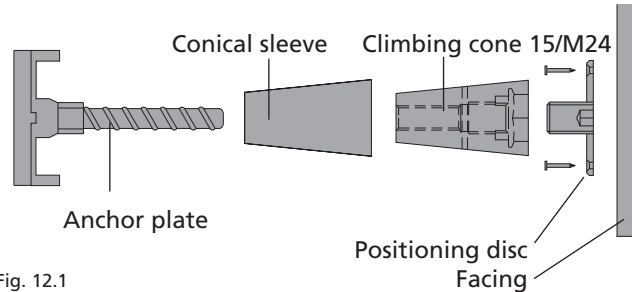

Fig. 12.1
(Fig. 12.1 and 12.2)
5. Screw anchor plate into climbing cone (Fig. 12.1).